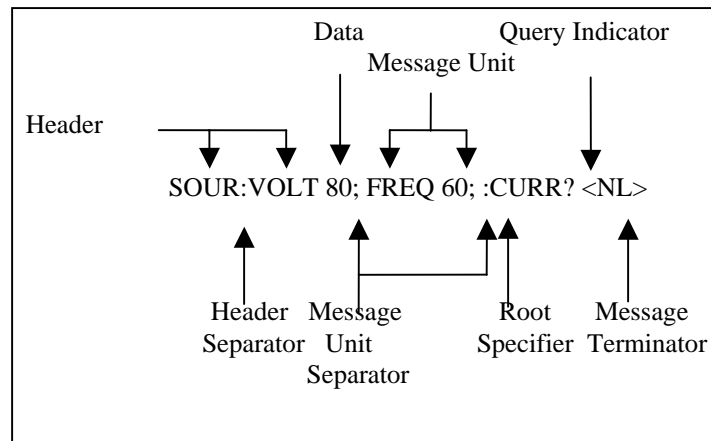

Figure 12-2: Command Message Structure
**Note:** The use of compound messages such as the one shown in Figure 12-2 is not recommended as they typically exceed the available receive buffer length of the RP Series interface.